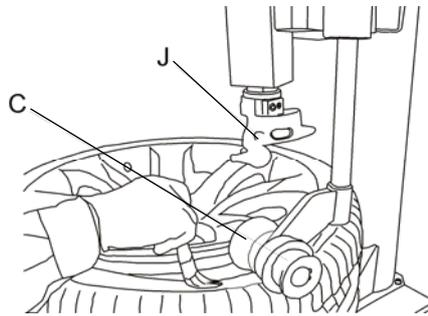

Fig 7
1. Press tyre with tire pressing roller assembly to a position 3cm lower than rim edge, lubricate tyre bead, rotate turntable, lift tire pressing roller assembly. (Fig 7)